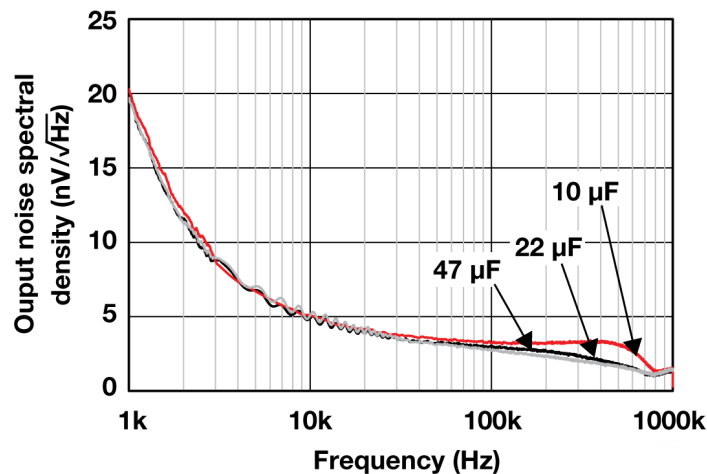
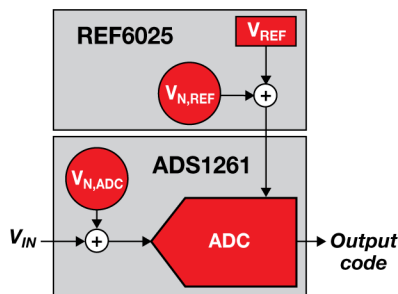

Figure 42. Output noise spectral density plot for the REF6025.
Figure 43. System setup using the ADS1261 and REF6025.
- **Point B.** This is the total noise when the input voltage is equal to the reference voltage—that is, a full-scale reading. In general, take the root sum of squares (RSS) of the reference noise and the ADC noise to determine Point B. However, when the reference noise is much larger than the ADC noise—as is the case in Figure 41—you can approximate Point B as just the reference noise. Either way, you generally cannot read the value of the voltage reference noise directly from the data sheet, since it depends on several factors including the voltage reference’s noise characteristics. Figure 42 shows the output noise spectral density for TI’s REF6025, a 2.5-V precision voltage reference.
In Figure 42, note the significant increase in noise density at low frequencies ($1/f$ [flicker] noise) compared to the relatively flat noise density at higher frequencies (broadband noise). Like several of the amplifiers analyzed in Section 3.2, reference noise performance is not necessarily constant over frequency.
For this example, let's continue using the REF6025 shown in Figure 42 and pair it with the **ADS1261**, a 24-bit delta sigma ADC. This device offers low noise and an integrated programmable gain amplifier (PGA), both of which will make the reference-noise-versus-gain relationship more apparent. Despite these choices, you can apply this analysis to any combination of ADCs and voltage references. Figure 43 shows the system setup for this example.
Similar to the amplifier noise analysis in Section 3.1, you can separate the components in Figure 43 into noiseless devices preceded by a voltage source that is equivalent to each component's noise. The ADC noise ($V_{N,ADC}$) is listed in the ADS1261's data sheet, while you must calculate the voltage reference noise ($V_{N,REF}$) using the REF6025 data sheet as well as the system ENBW. Fortunately, you can use the approximation methods I detailed in Section 2.2 to determine the system ENBW. In this case, the ENBW is 13 Hz using a 60 samples per second (SPS) output data rate (ODR) as well as the low-latency filter of the ADS1261. This yields approximately $1.2\ \mu V_{RMS}$ of noise using the REF6025. Finally, you need to choose an input signal that allows you to use all available ADC gain options. Using the ADS1261's maximum gain of 128 V/V enables a maximum differential input voltage of $\pm 19.5\ mV$ using a 2.5-V reference voltage. Table 19 summarizes the system specifications.